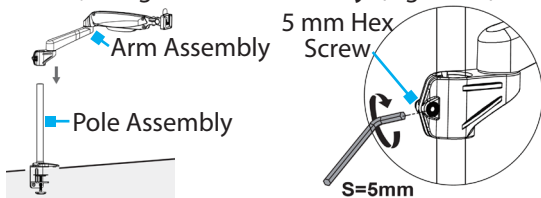

Figure 11
1. Slide the **Arm Assembly** onto the **Pole Assembly**, hold at the desired mounting height, and tighten the built-in **5 mm Hex Screw**, using the **5 mm Hex Key**. (Figure 11)